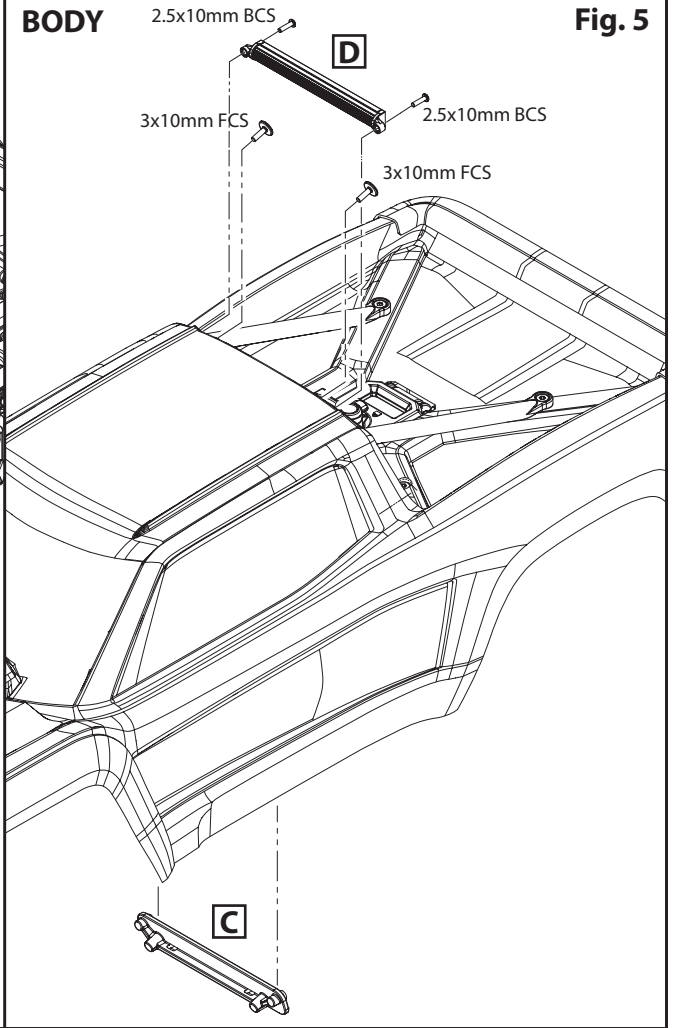
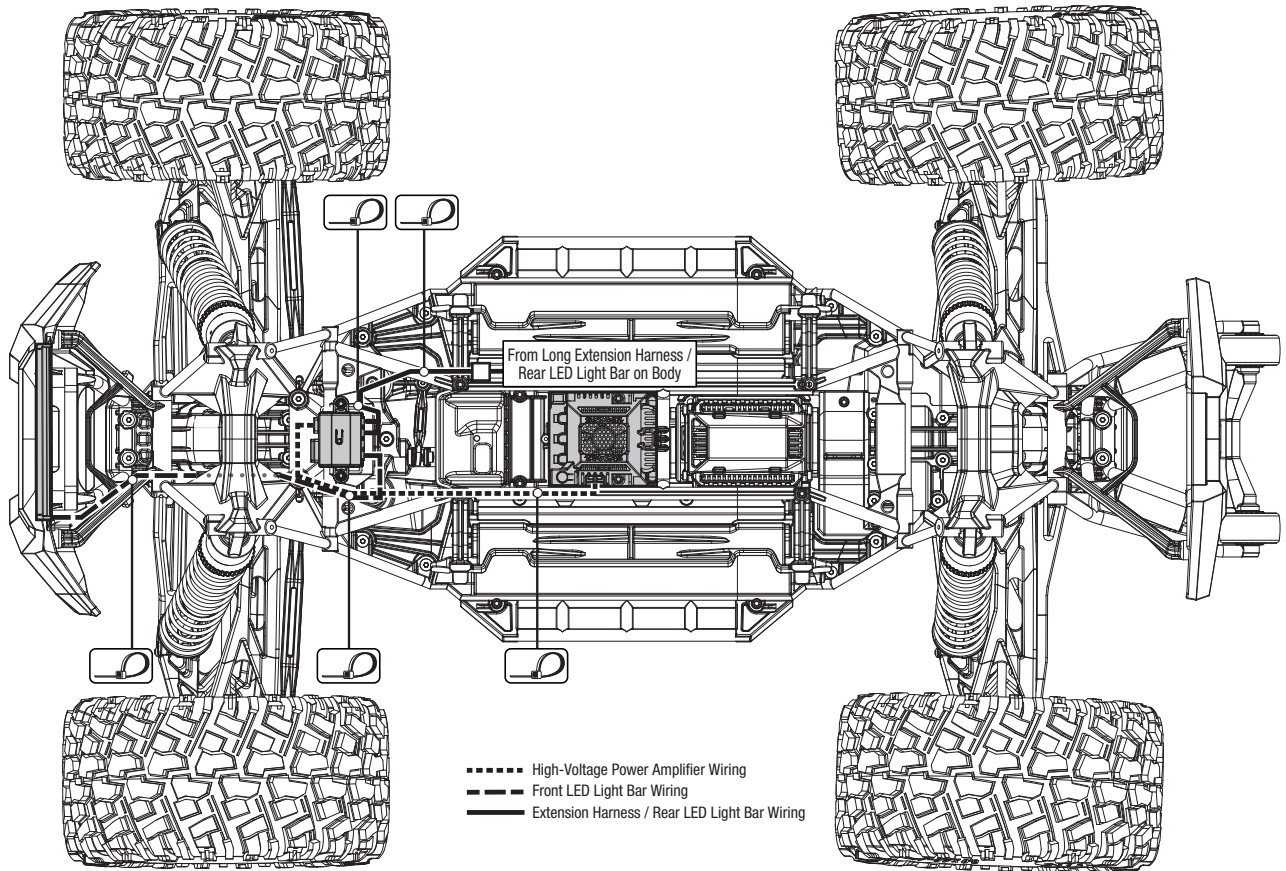

Fig. 5
Fig. 6
High-Voltage Power Amplifier Installation (Fig. 5):
1. Install the high-voltage power amplifier (A) on the truck chassis. Ensure that the connectors on the amplifier face the front of the vehicle. Secure with the 3x12mm button-head screws (2). Refer to the assembly diagram (Fig. 5) and wiring diagram (Fig. 6).
LED Light Bar Installation (Fig. 5):
1. Install the front and rear LED light bars; refer to the assembly diagram (Fig. 5) and wiring diagram (Fig. 6).